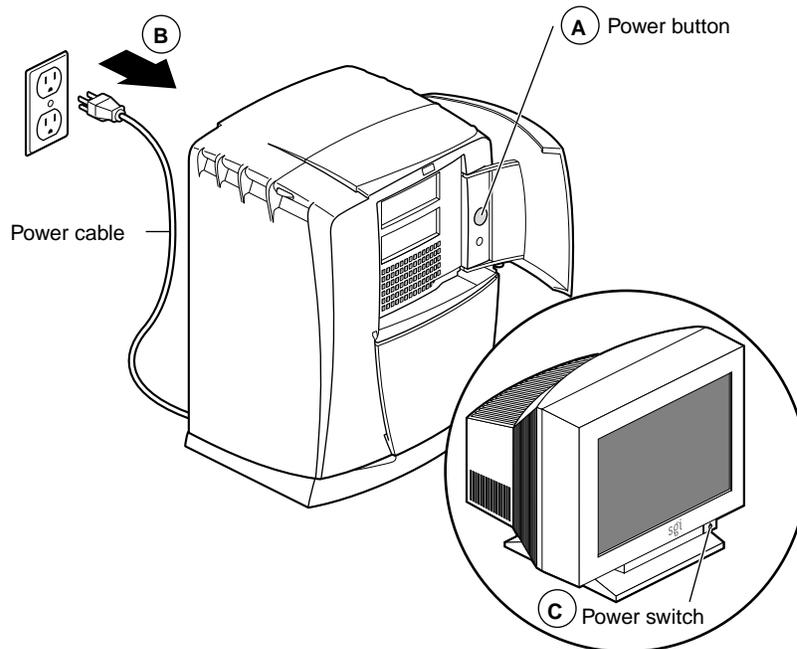

Figure 2-1 Powering Off the Octane2 Workstation
1. Open the cover and press the power button (see A in Figure 2-1) to power off your workstation.
2. Unplug the power cable (B) from the electrical outlet and from your workstation.
3. Press the monitor power switch (C) to turn off your monitor.